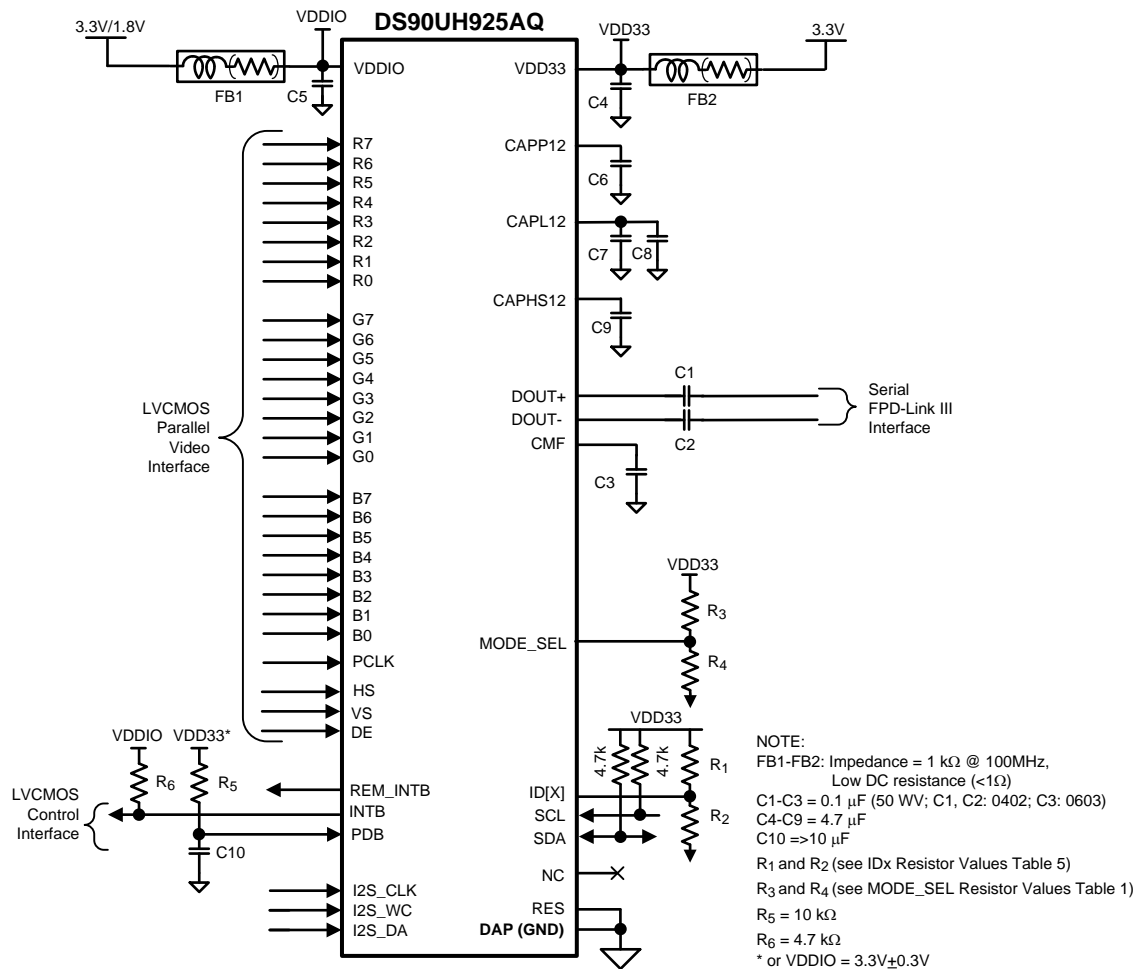

Figure 25. Typical Connection Diagram
Figure 25 shows a typical application of the DS90UH925AQ serializer for an 85 MHz 24-bit Color Display Application. The CML outputs must have an external 0.1  $\mu$ F AC coupling capacitor on the high speed serial lines. The serializer has an internal termination. Bypass capacitors are placed near the power supply pins. At a minimum, six (6) 4.7 $\mu$ F capacitors (and two (2) additional 1 $\mu$ F capacitors) should be used for local device bypassing. Ferrite beads are placed on the two (2) VDDs ( $V_{DD33}$  and  $V_{DDIO}$ ) for effective noise suppression. The interface to the graphics source is with 3.3 V LVCMOS levels, thus the  $V_{DDIO}$  pin is connected to the 3.3 V rail. A RC delay is placed on the PDB signal to delay the enabling of the device until power is stable.